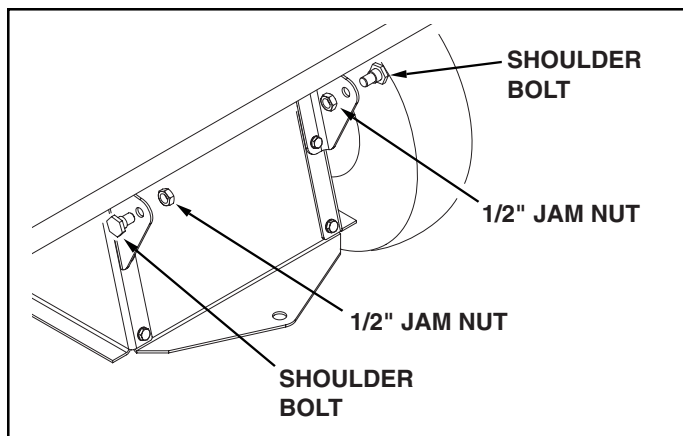

FIGURE 2
5. Attach LH and RH adapter brackets to rear of tractor frame using bolts removed in step 4. See figure 2.
6. Assemble a shoulder bolt and a 1/2" jam nut to each adapter bracket. See figure 2.